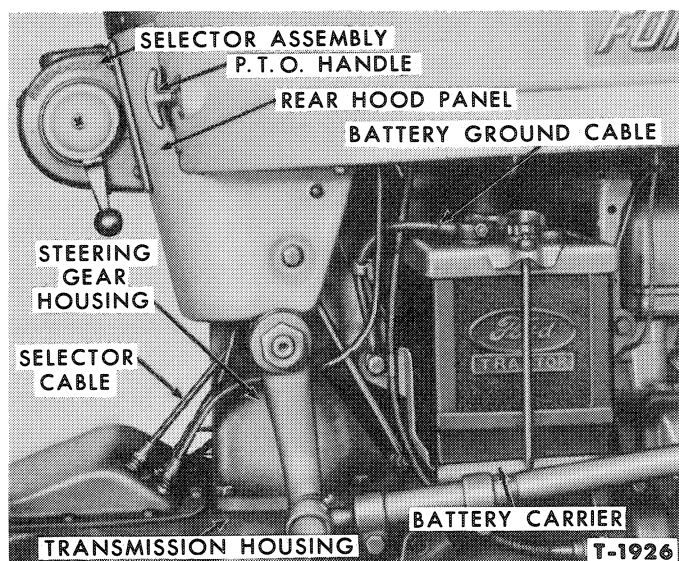

Figure 14—Steering Gear Installed
1. Disconnect the battery ground cable from the steering gear housing and battery bracket, Figure 14.
21. Remove the four bolts that secure the steering gear housing, Figure 14, to the transmission case and lift the steering gear from the tractor.